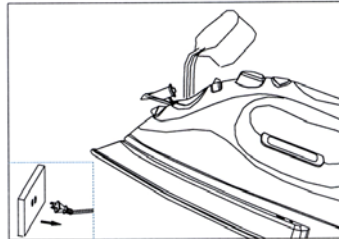

Fig. 1
1. Open the water filling inlet cover. Holding the iron at a slight angle, pour water slowly into the water filling inlet. (Fig. 1) Fill tank to desired level or to the "MAX" water level marking using the water filling flask. (When the iron is upright, the see-through water tank allows you to gauge the amount of water.) DO NOT overfill the tank. When finished filling the iron with water, close the water inlet cover before continuing.